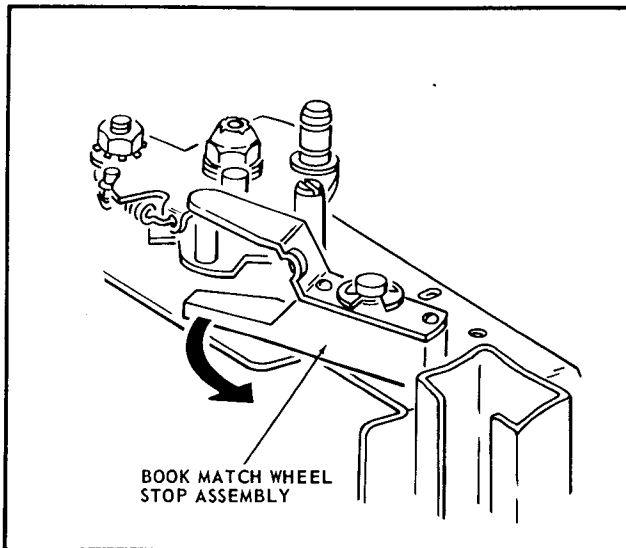

FIGURE 12
- G. Move the Book Match Wheel Stop Assembly counter-clockwise away from the Rotor Plate Assembly. See Figure 12.